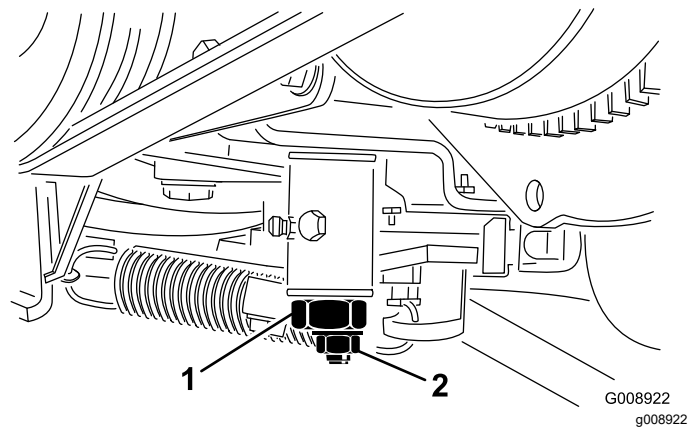

Figure 55
4. Loosen the locknut on the traction adjustment cam (Figure 55).